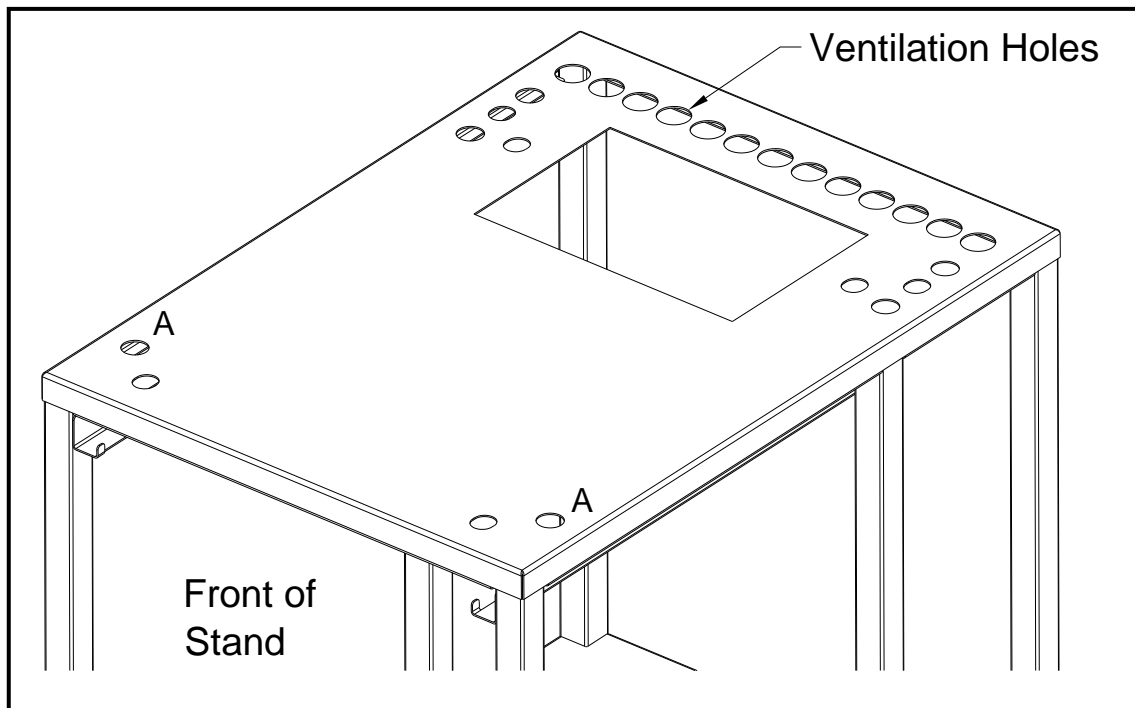
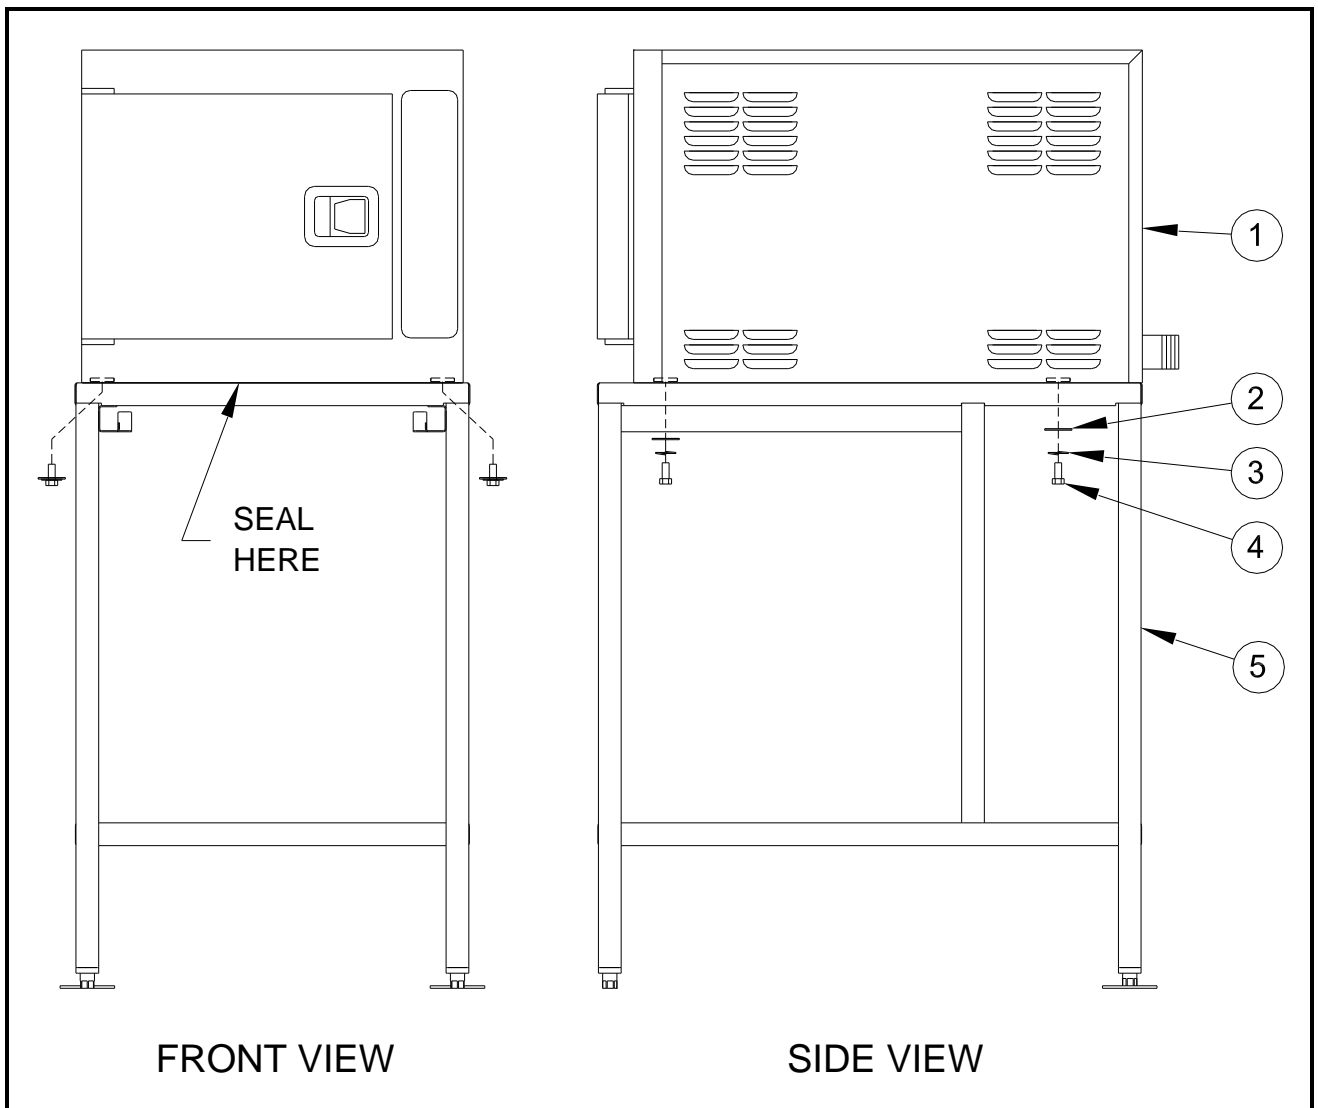

Figure 1
Figure 2
2. Set steamer directly on stand as shown in Figure 2 on the next page (4-inch legs provided with steamer are not used when installing SteamCraft® steamers on a stand). Align steamer so that front mounting bolts will come up through holes marked "A" in Figure 1 below.
NOTE: It is especially important when installing a gas fired steamer that the bottom ventilation holes line up with those in the stand (See Figure 1 below). Be sure that these holes line up before securing gas steamer to stand.
3. Secure steamer to stand using 4 sets of bolts and washers provided as shown in Figure 2 (Items 2, 3 and 4) on the following page.
4. Seal any gaps between steamer and stand with a suitable RTV Sealant (not provided) as shown in Figure 2. Suitable RTV sealant is a Food Grade silicone sealant rated at least 250°F and Listed or Classified to ANSI/NSF 51 or 61 Standards.